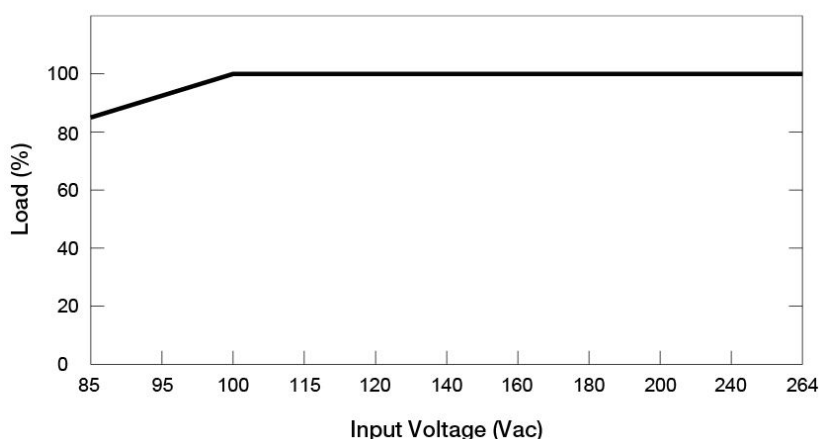

**Fig. 1 De-rating for Vertical Mounting Orientation**
1. Power supply components may degrade, or be damaged, when the power supply is continuously used outside the shaded region, refer to the graph shown in Fig. 1.